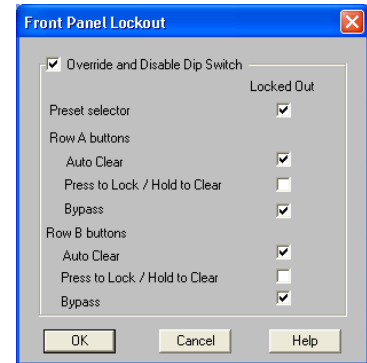

FIGURE 9-1: "Front Panel Lockout" Dialog
2. The "Front Panel Lockout" dialog opens, as pictured in Figure 9-1.